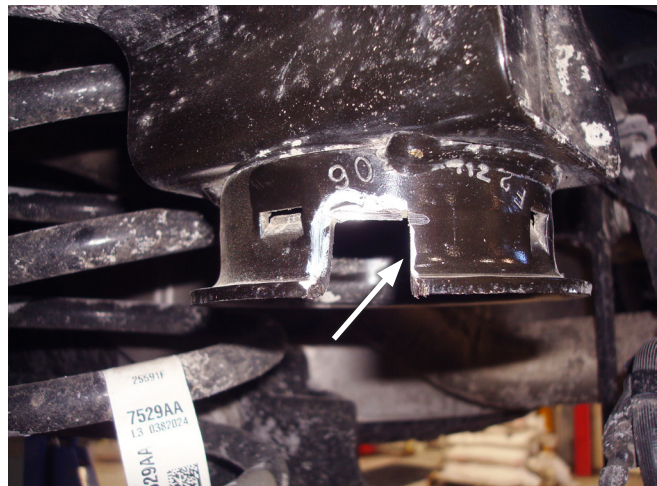

Fig. 7
6. Finish cutting out the slot by deburring the cut edges (Fig. 7). Do this on both sides of the vehicle.